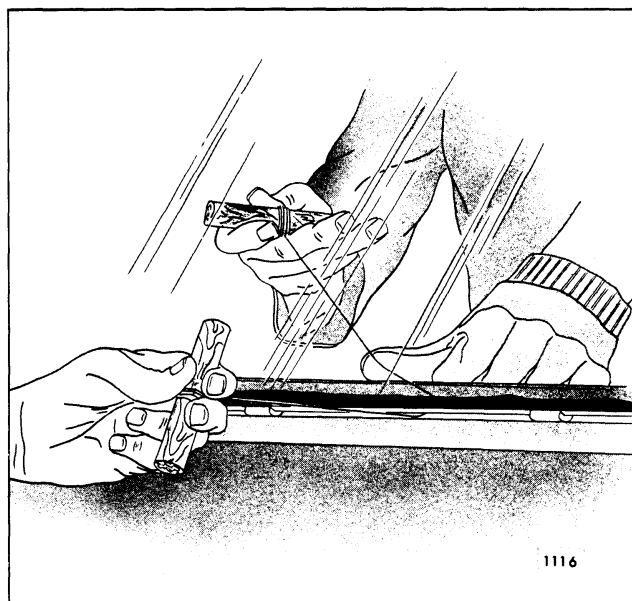

Fig. 1-10-Cutting Adhesive Material
5. Secure one end of steel music wire to a piece of wood that can serve as a handle. Using long nose pliers, insert other end of wire through adhesive material at edge of glass; then, secure that end of wire to another wood handle (Fig. 1-10).
6. With aid of helper, carefully cut (pull wire) through adhesive material around entire perimeter of window. If "short method" will be used to install new glass, hold wire close to inside plane of glass to prevent cutting an excessive amount of adhesive material from window opening. Keep tension on wire throughout cutting operation to prevent wire from kinking and breaking (Fig. 1-10).
**NOTE:** Optional methods of glass removal which requires only one man are: (1) electric hot-knife (not recommended on some styles due to inaccessibility at lower corners of windshield glass), and (2) pulling cutting wire through upper and lower edges of glass simultaneously. For latter